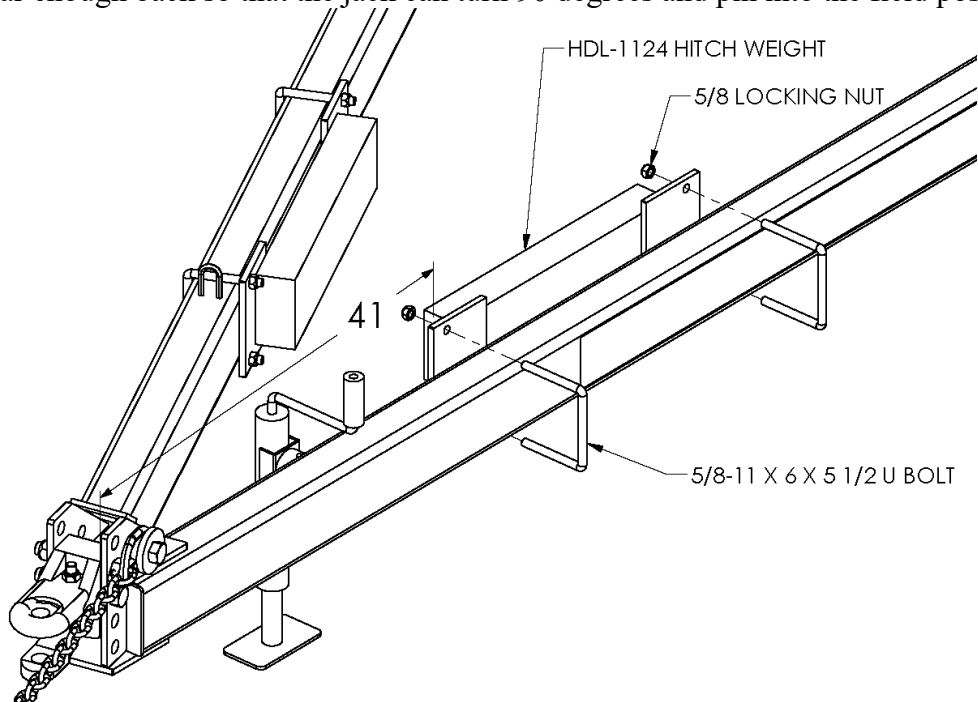

Figure 5
1. Attach the Hitch Weights to the Main Frame as shown in Figure 5. Dimension from front of side tube to front of weight mount plate should be approximately 41. The weights must be far enough back so that the jack can turn 90 degrees and pin into the field position.